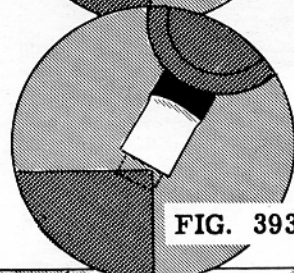

FIG. 393
3. Move the tool toward the work with the down-feed crank until the cutting edge of the tool is near the edge of the work (Fig. 393).